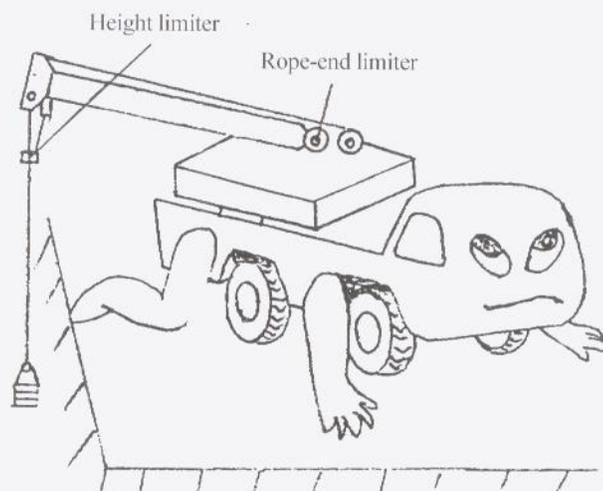

Fig. 7-1
(3) Hoist height limit function (see Fig. 7-1)
(4) Notes
7.2. Rope-End Limiter (see Fig. 7-1)